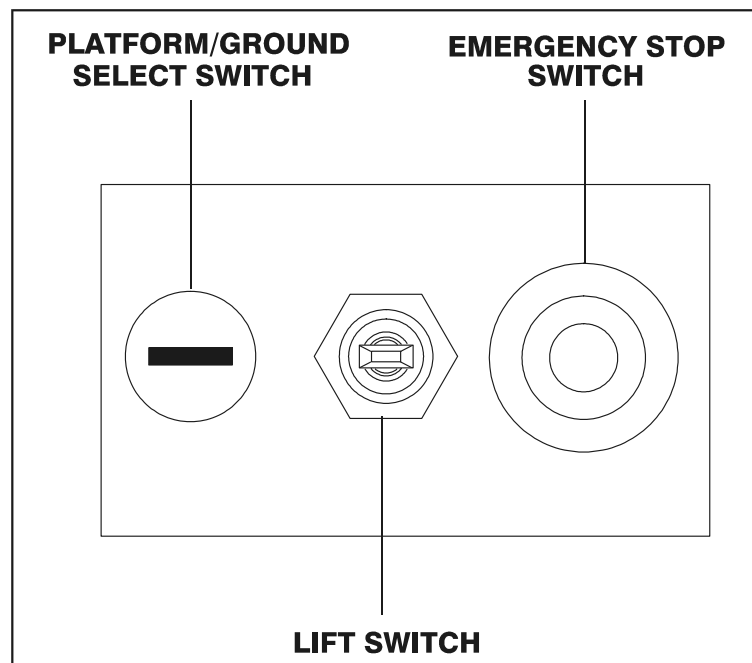

Figure 3-1. Ground Control Station
The Tilt Alarm Warning is activated by the Tilt Alarm Switch when the chassis is on a slope. See Figure 3-1, Tilt, for degree of tilt per model.
A red warning light on the control box panel will illuminate when the chassis is on a slope. See Figure 3-1, Tilt, for degree of tilt per model
10. **Tilt Alarm Warning Horn (If Equipped)** - The Tilt Alarm Warning Horn is activated by the Tilt Alarm Switch when the chassis is on a slope. (See Figure 3-1, Tilt for the appropriate degree of tilt). When the machine is equipped with a powered deck extension, the horn is activated when the deck extension is being extended or retracted.
11. **Tilt Alarm Warning Light (Red) (If Equipped)** - A warning light on the membrane switch panel that illuminates when the chassis is on a severe slope (See Figure 3-1, Tilt for the appropriate degree of tilt).